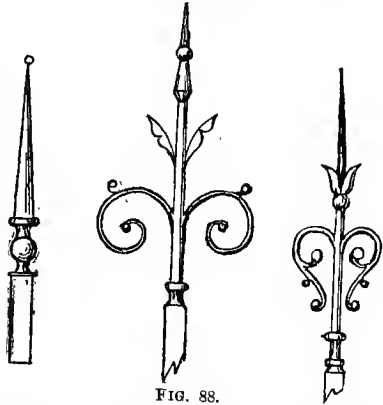

FIG. 88.
*Finials*, shown in Fig. 88, are wooden or iron spikes or points fixed at each end of the ridge. They are made in various patterns, of cast or wrought iron, and wood, and add considerably to the appearance of the structure.